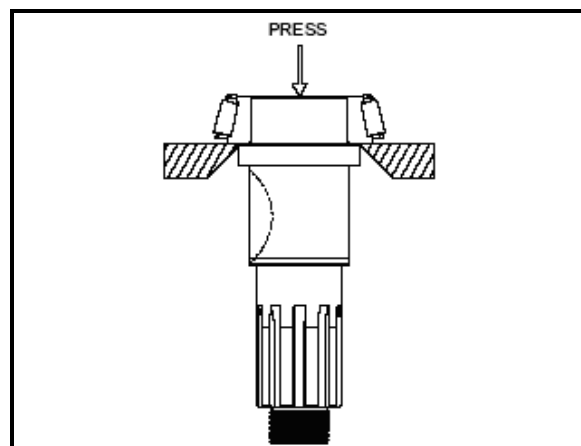

Figure 23
4. To remove the rear bearing cone assembly, support under the cone with a bearing separator and press the shaft through the cone. See **Figure 23**. Remove the shaft key only if necessary.